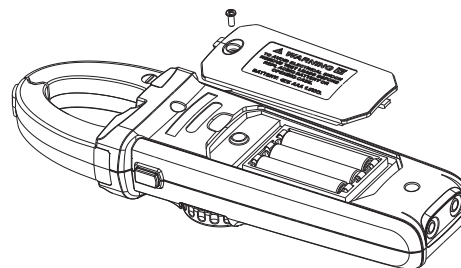

Figure 15
**X. Maintenance and upkeep (see Figure 15)**